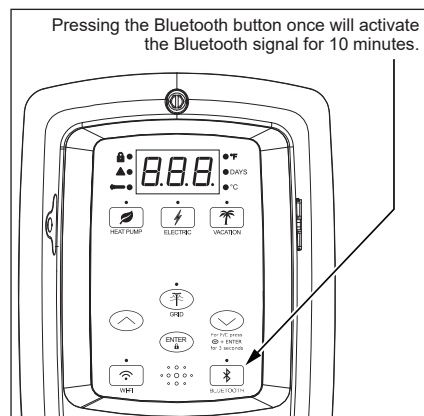

Figure 28 - Bluetooth Control
- 1 To activate the Bluetooth signal, press the Bluetooth button once. The LED will blink on and off in 1/2 second intervals. Bluetooth will activate pairing mode (Figure 28).